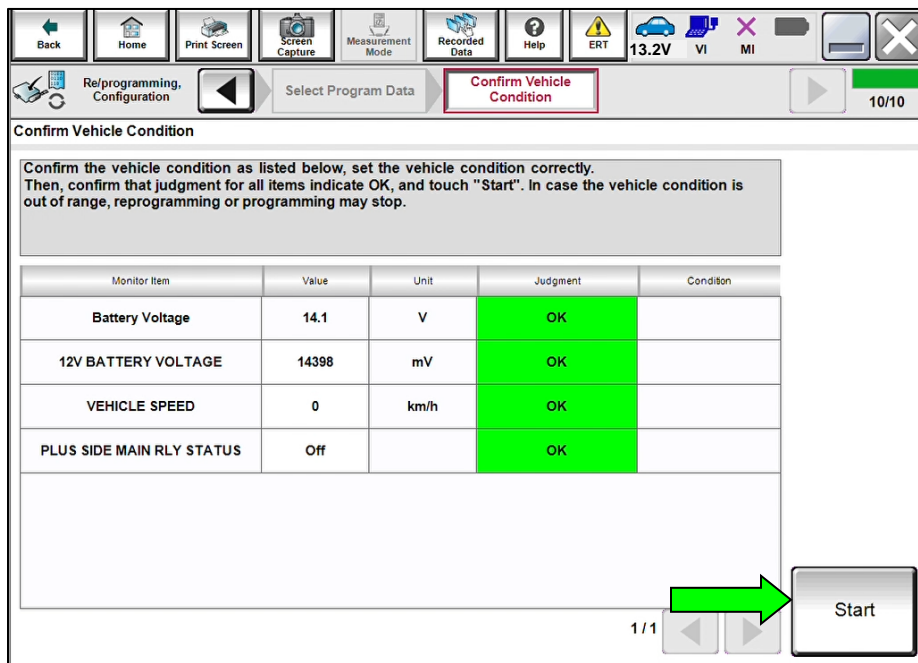

Figure 15
**HINT:** If any of the items shown in Figure 15 have a status of “NG”, verify the battery charger/maintainer is connected correctly and the vehicle is NOT in ready mode.